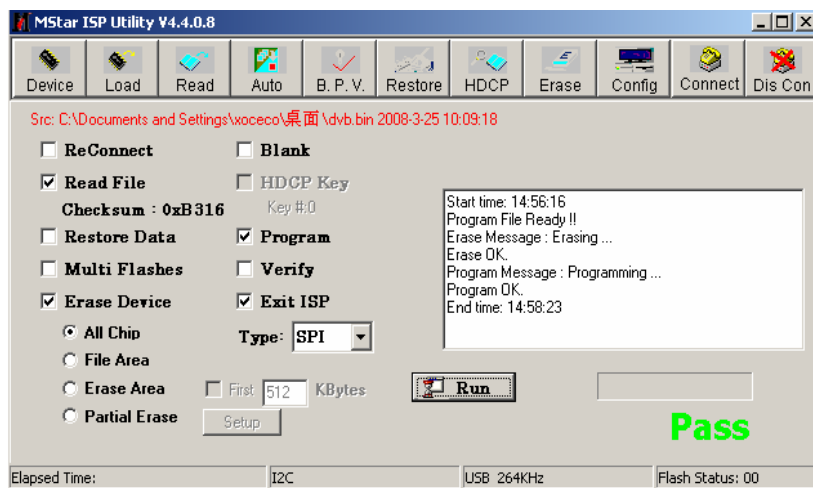

Fig. 6 A prompt “Pass” displaying beside button “Run” for successful burning process
7) A prompt “Pass” will display beside button “Run” if burning process is successful, please refer to Fig. 6;